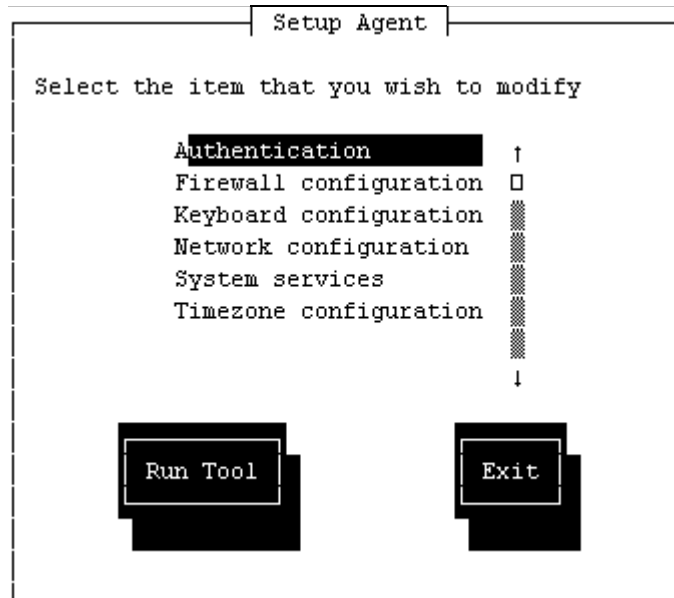

Figure 8-21 Setup Agent panel
25. During boot the Setup Agent window appears (Figure 8-21). You can modify any of the fields if desired or press **Exit** to finish booting the LPAR.